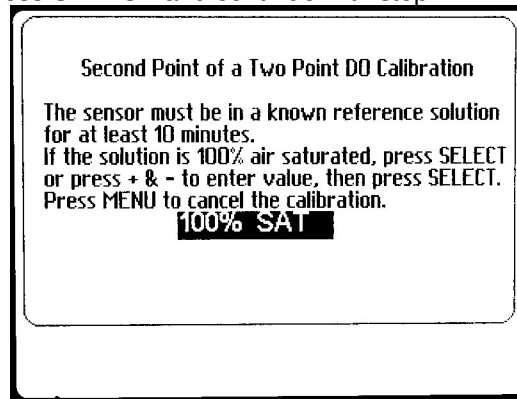

Figure 28 - Second Point of a Two Point D.O. Calibration
10. The highlighted field of the SECOND POINT OF TWO POINT D.O. CALIBRATION screen (Figure 28) will first read 100%SAT. If the sensor is submerged in a saturated solution as recommended, press SELECT now and continue to step 11. If another reference is being used, pressing the + or – key will switch to a ppm value display that can be adjusted to the reference value with the + and – keys. Once the correct value is shown, press SELECT and continue with step 12.